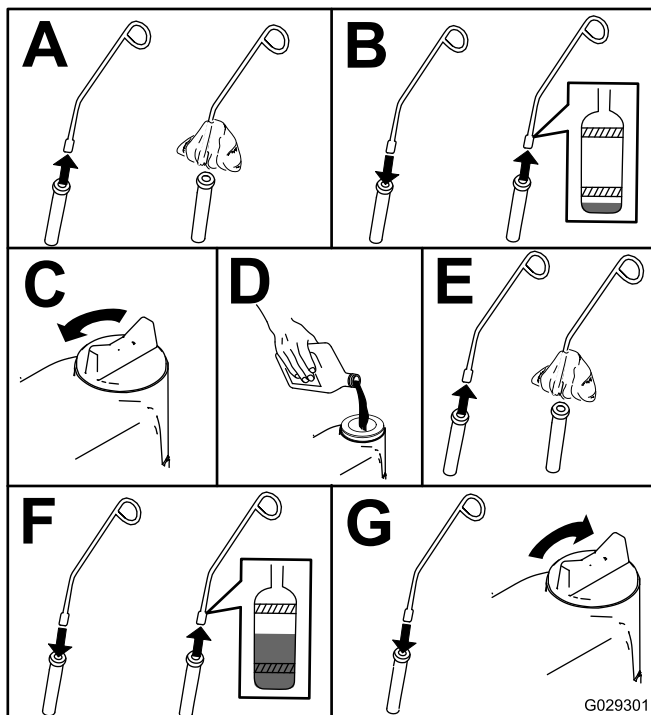

Figure 26
5. Check the oil and add additional oil as needed (Figure 26).